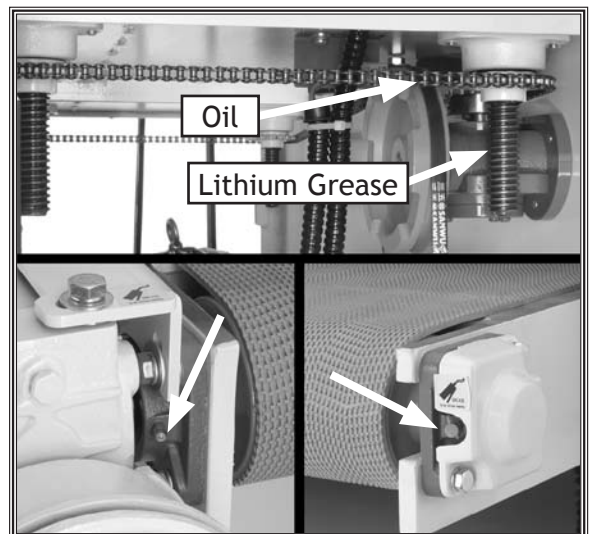

Figure 31. Conveyor grease fitting locations.
- After every 20-40 hours of use, lubricate the elevation screws with grease, and brush or lightly spray the table chain and sprockets with a light coat of oil and wipe any drips off (see Figure 31).